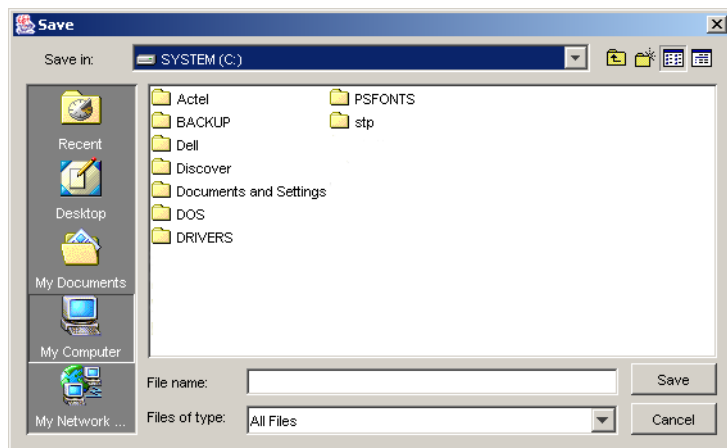

Figure 2-23. Save Dialog Box
You can reprogram a securely locked device using the original STAPL file by following the usual programming procedures. The UNLOCK\_UKEY box is checked by default, and the software automatically unlocks the device before programming (see Figure 2-23).
1. From the *File* menu, click *Save Log*. The Save dialog box appears, as shown in Figure 2-23.